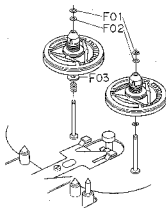

Fig. 3.9
Refer to Fig. 3.9. Remove Cassette case ass'y referring to item 3.10. Remove F01 and F02, then supply and take-up reel hub assemblies.